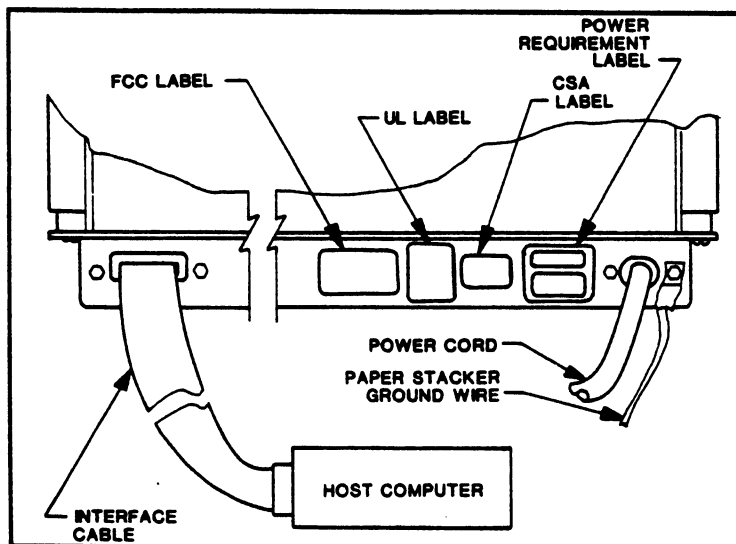

FIGURE 7-7.
1. Check to be sure the voltage shown on the printer ID label is the same as the site line voltage (Figure 7-7).
4. Connect the interface cable (customer supplied) between the printer's interface connector and the host computer. (Figure 7-7.)